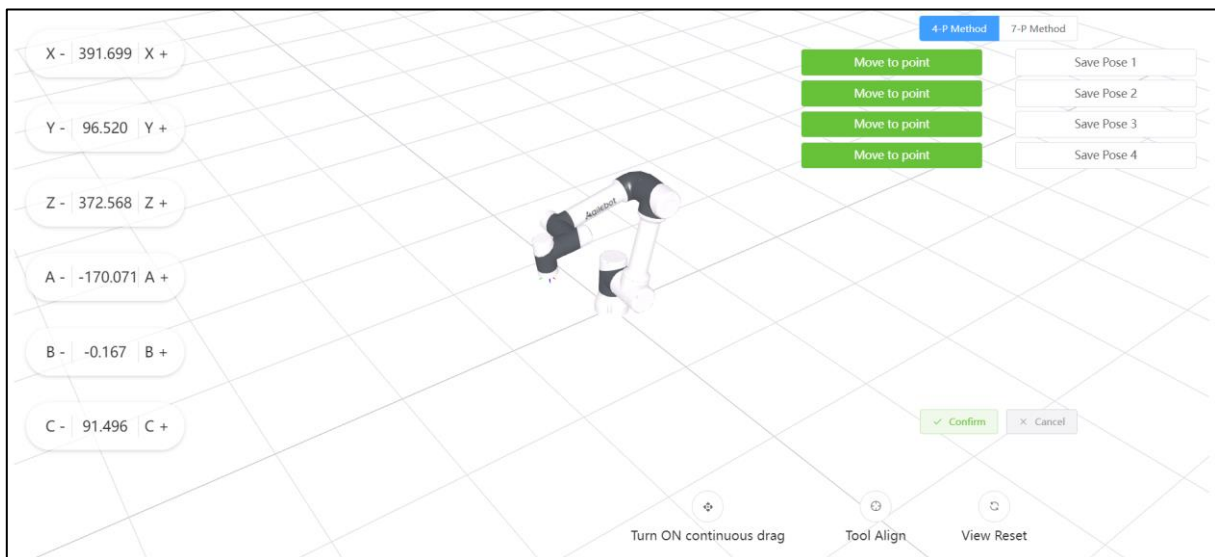

Fig. 2.16 Tool Coordinate System Setting Interface 5
4. Select the pose to be taught. After teaching of that pose, click "Save Pose", and the interface is shown in Fig. 2.16.